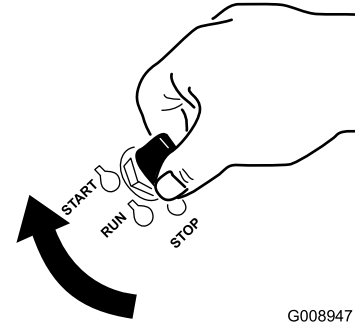

Figure 19
6. Turn the ignition key to the START position (Figure 19).